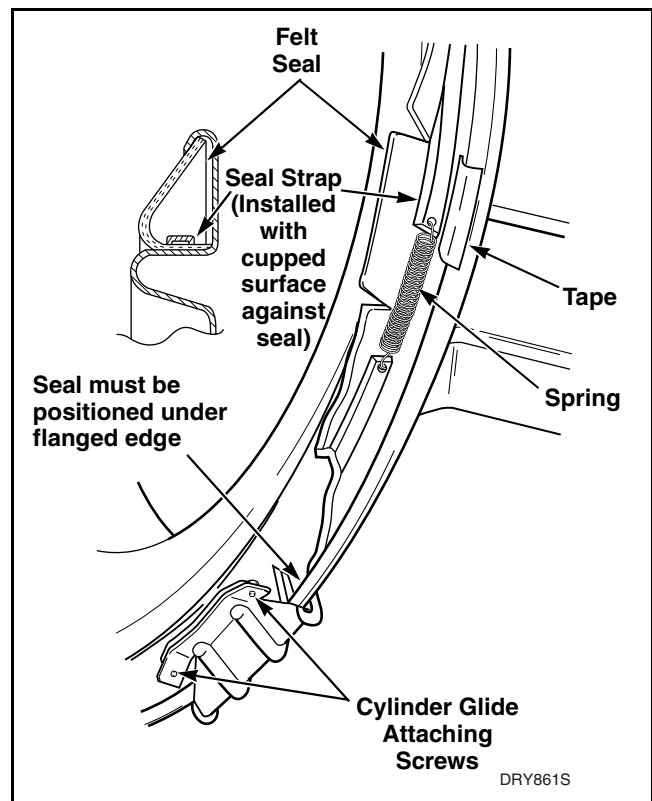

Figure 34
- c. Remove cylinder glides. Refer to *Figure 34*.
- d. Unhook spring from seal strap. Refer to *Figure 34*.